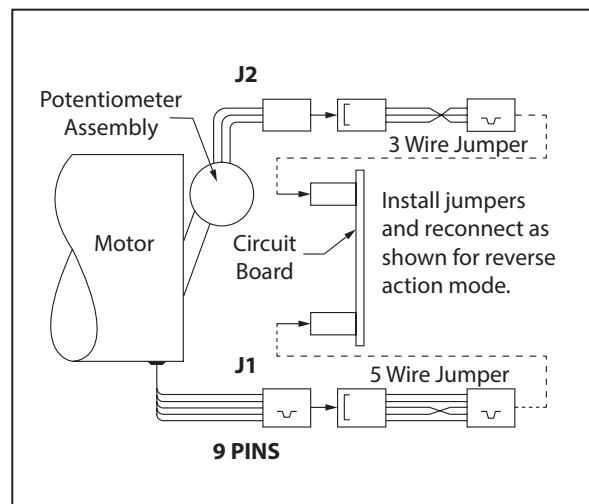
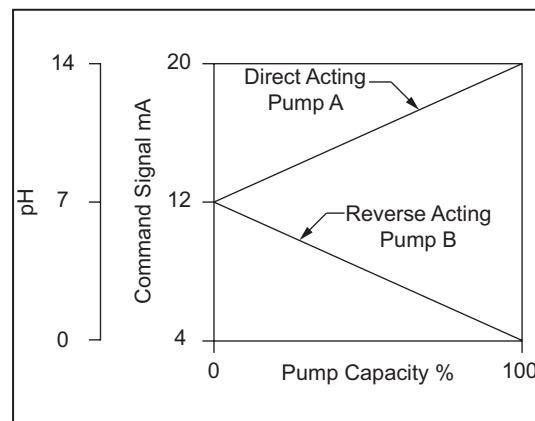

Figure 9. Jumper Plugs/Action Mode Conversion.
Figure 11. Split Range Operation with Two Pumps (Typical pH Control System).
Voltage selector switch SW1 (Figure 11), located on top of the circuit board, is a two position switch used to configure the ECC for an input of 115 VAC or 230 VAC. Insure SW1 is set to the voltage listed on your data plate (Figure 1 or 2), attached to the enclosure. If the operating voltage must be changed, visit the Milton Roy website (www.miltonroy.com) for conversion parts and instructions.
5. Voltage selector switch SW1 (Figure 11), located on top of the circuit board, is a two position switch used to configure the ECC for an input of 115 VAC or 230 VAC. Insure SW1 is set to the voltage listed on your data plate (Figure 1 or 2), attached to the enclosure. The factory sets SW1 for the model ordered and should not be changed. If the operating voltage must be changed, contact the Milton Roy factory at the website (www.miltonroy.com) website for conversion parts and instructions.
- Adjusting the span control, VR1, *Figure 11*, determines the maximum travel of the ECC over the full range of the command signal.
- Adjusting the zero control, VR2, *Figure 11* shifts the position of this travel (*Figure 9*).
First remove the cover from the ECC. On the ECC circuit board, *Figure 11*, are four lights and four small trim potentiometers. The lights are in pairs. The pots are for zero, span, upper limit, and lower limit adjust.
3. Locate the “Zero” (VR2) and “Span” (VR1) adjust controls on the printed circuit board (PCB) shown in *Figure 11*.